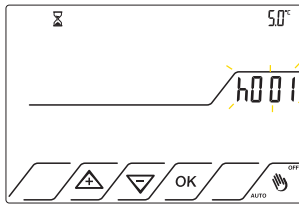

Fig.19
5.3.4 Press OK to confirm. The hour counter h0 01 flashes. Fig.19